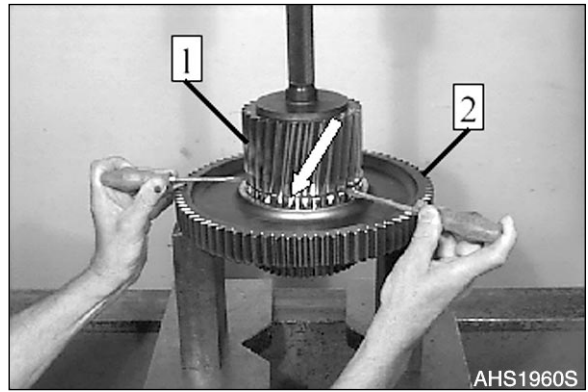

Figure 236
2. Pre-assemble and install Spur gear K2 (Figure 236 - Figure 245)